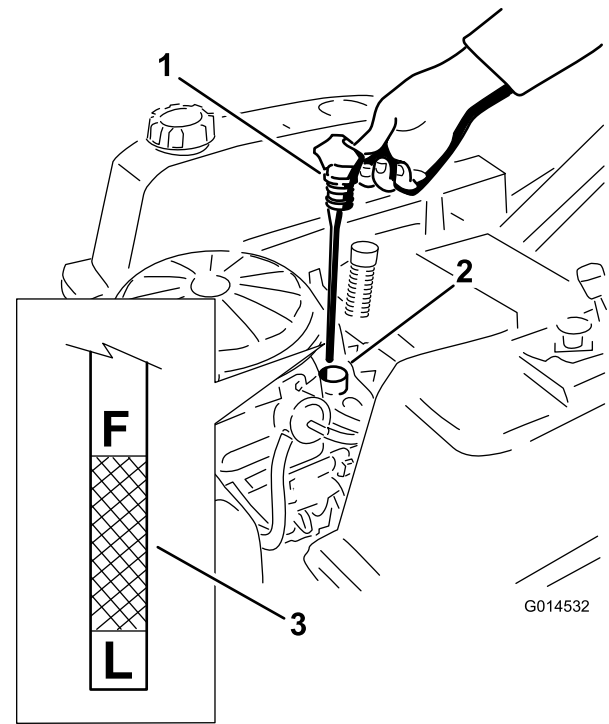
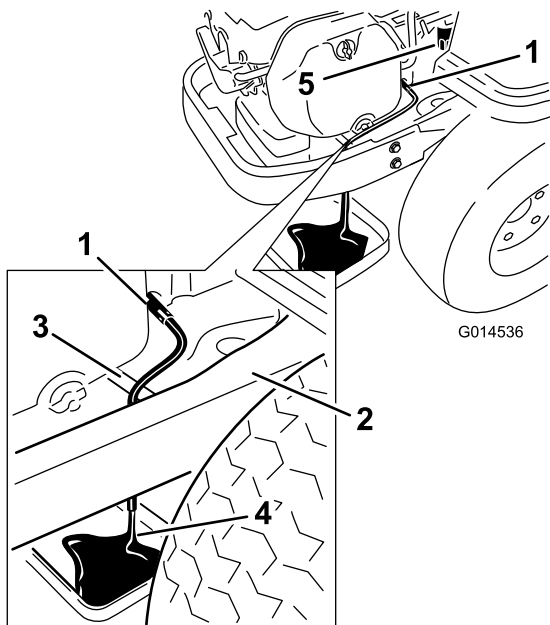

Figure 29
Figure 31
- Pull and remove the oil fill cap/dipstick; wipe oil off. Reinsert the dipstick and push firmly into place (Figure 29).
- Remove the dipstick and check the oil level. (Figure 29). The oil level should be up to, but not over, the **F** mark on the dipstick.
- Place a pan underneath machine directly below the drain hose as shown in Figure 31.
- Turn the drain valve 1/4 counter clockwise to open and allow the oil to drain (Figure 31). Remove the oil fill cap/dipstick (Figure 29).
- Remove the old filter and wipe off the mounting pad (Figure 31).
- When oil has drained completely, close the oil drain valve. Remove the oil drain hose and wipe up any excess oil on the frame (Figure 31).
- Slowly pour approximately 80% of the specified oil into the filler tube (Figure 29).
- Install the oil fill cap/dipstick and push firmly into place (Figure 29).
- Check the oil level (Figure 29); refer to Checking the Oil Level.